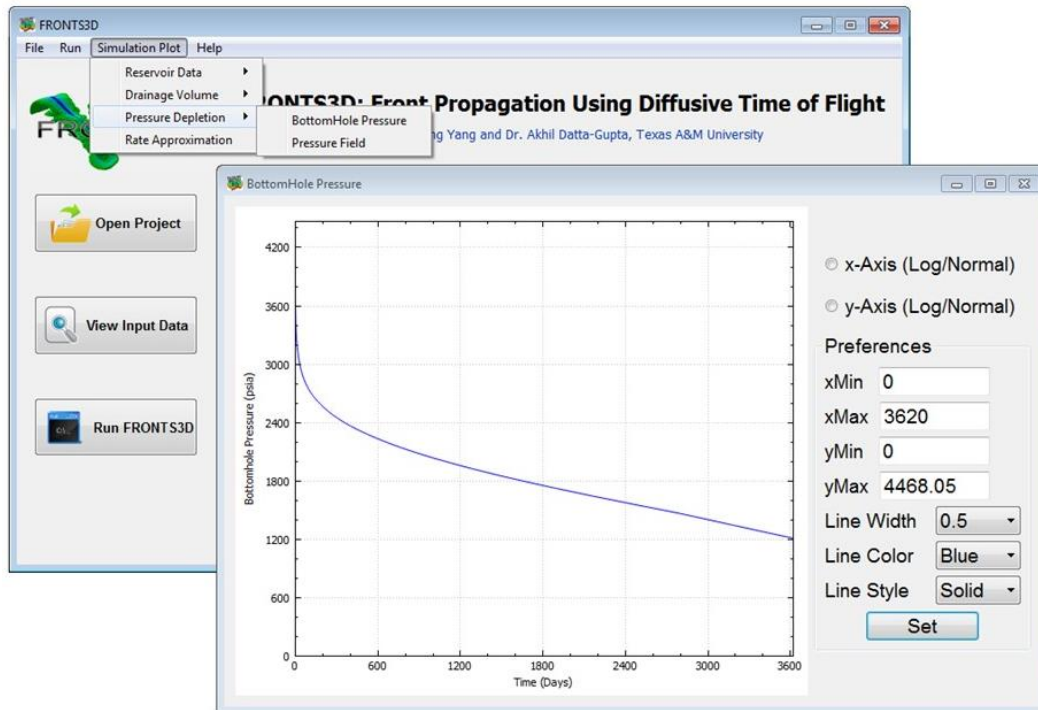

Figure 9. Select and View Pressure Depletion
- Click Simulation Plot → Pressure Depletion, you can view bottomhole pressure and pressure field. **(Figure 9)**.